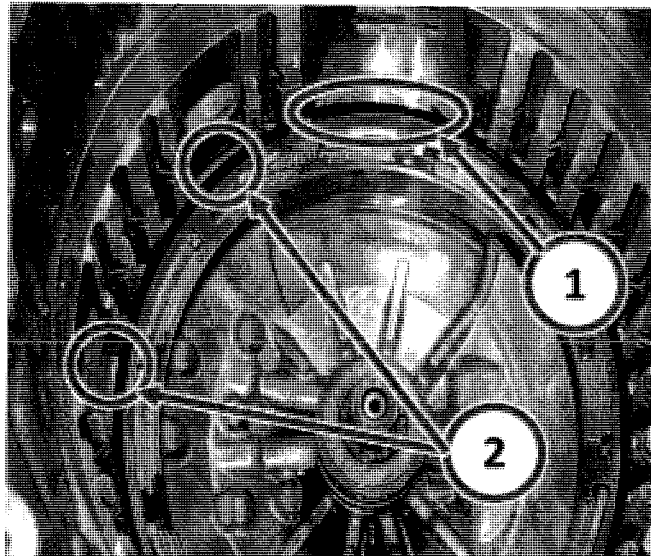
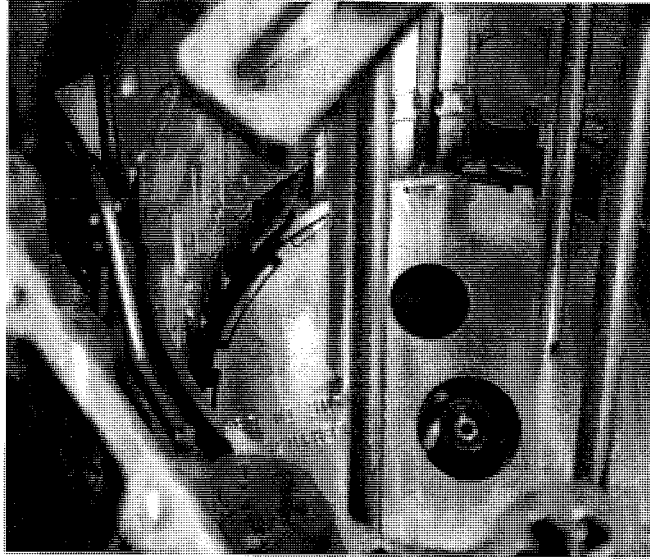

Fig. 10 Snap Ring Orientation
Fig. 11 New Snap Ring Installed
34. Install the new snap ring with the opening rotated 90 degrees counter clockwise from the original snap ring location. See (Fig. 10) and (Fig. 11).